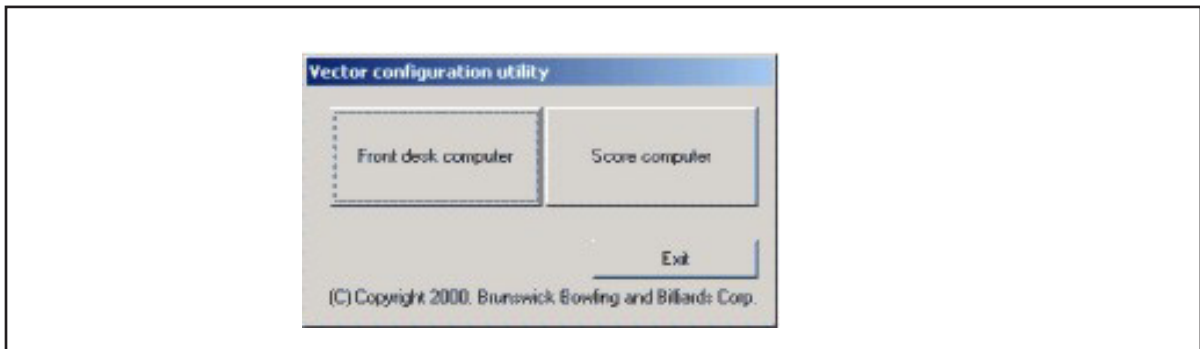

Figure 14. Config.exe screen
2. Select the Score Computer button. Refer to *Figure 14*.